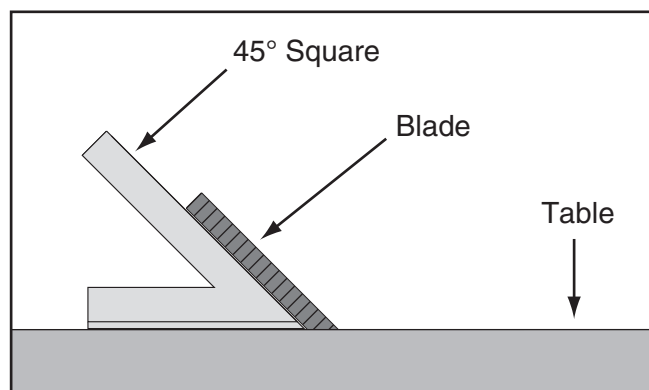

Figure 108. Checking blade at 45°.
3. Place a 45° square against table and blade so it contacts blade evenly from bottom to top, as shown in **Figure 108**. Make sure a blade tooth does not obstruct placement of square.